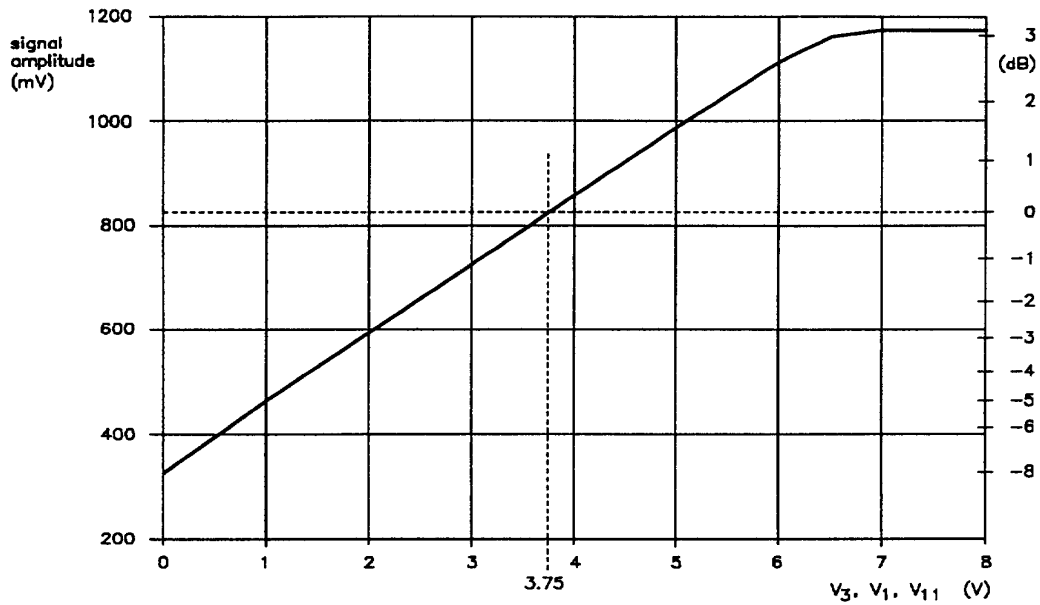

Fig.7 Typical gain characteristic.
6. Linear control range is 1 to 6 V for V_3 , V_1 and V_{11} , independent from supply voltage. Typical gain characteristic see Fig.7.